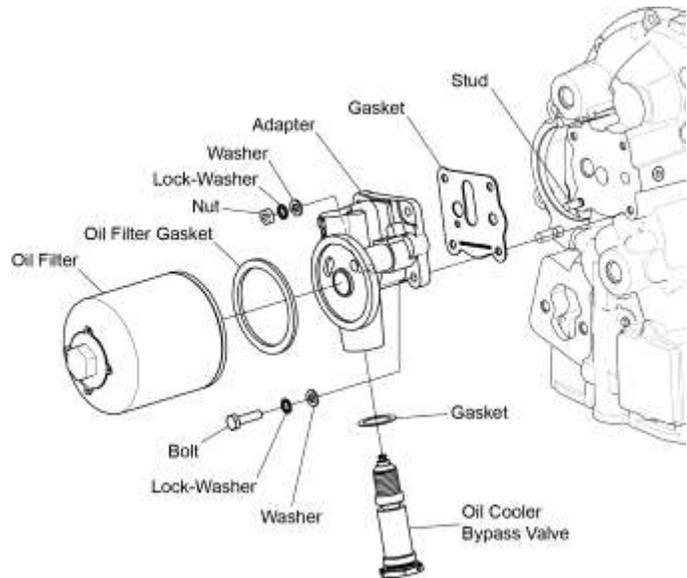

Figure 8
- B. Remove the thermostatic oil cooler bypass valve (Figure 8) from the oil filter base. Discard the gasket.
- B. Install the thermostatic oil cooler bypass valve with a new gasket on the oil filter base as shown in Figure 8.
- C. Remove the hardware fasteners (nut, bolts, washers, and lock washers) from the oil filter base Figure 8. Discard the lock washers.
- D. Remove the oil filter base (Figure 8).
- A. Mount the oil filter base on the accessory housing with a new gasket on the mounting pad where shown in Figure 8 with three bolts with flat washers and new lock washers.